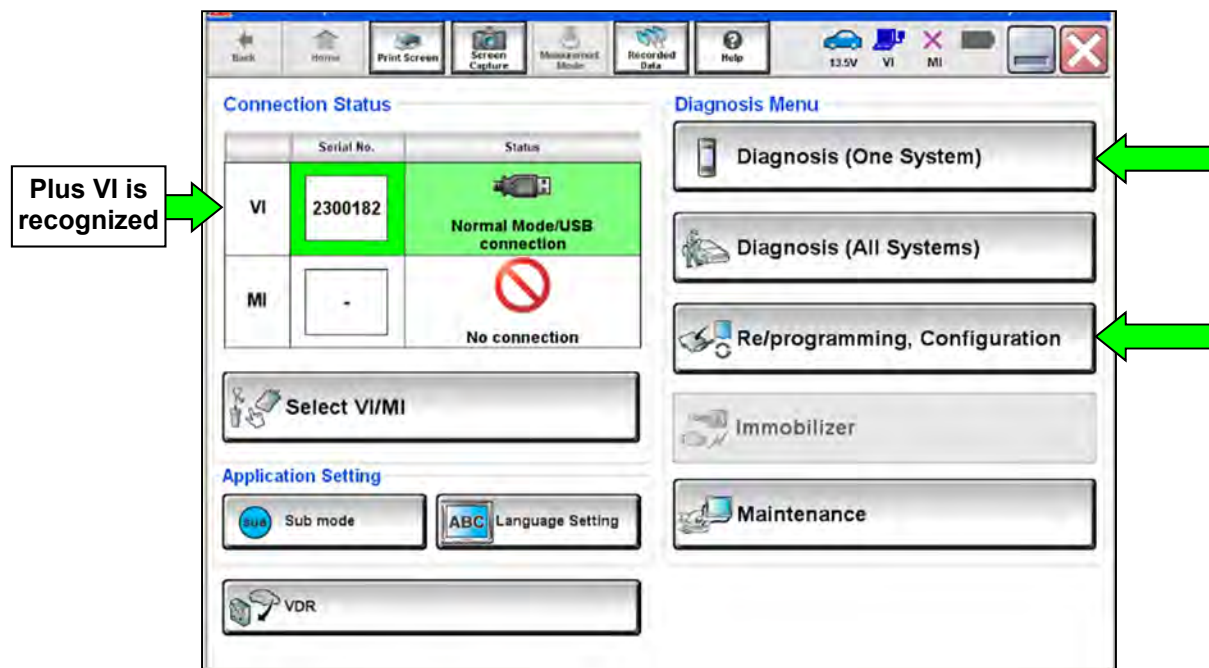

Figure 2
10. Select **YES** to return to the screen shown in Figure 2.